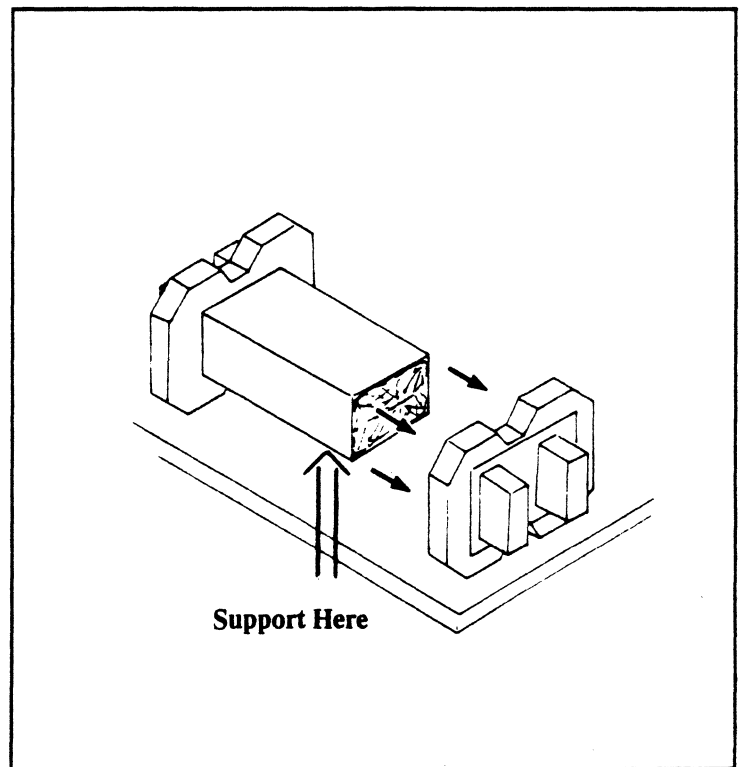

Figure 2B
- (e) Support the drive box while removing each of the end caps. Do not let the drive box drop to the bench surface. See **Figures 2B** and **2C**.